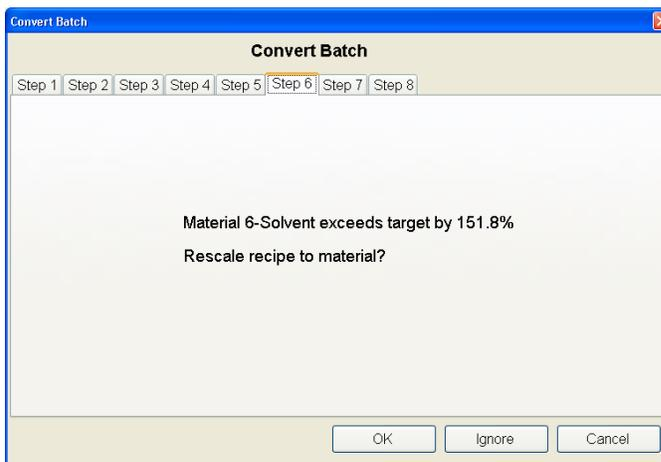

Figure 12-23: Largest Difference Calculation
- The convert function will compare the target recipe selected in step 1 to the source recipe selected from the history screen, and calculate the re-scale amount required based on the largest difference. Click **OK**, and the next screen will display this value (Figure 12-23).